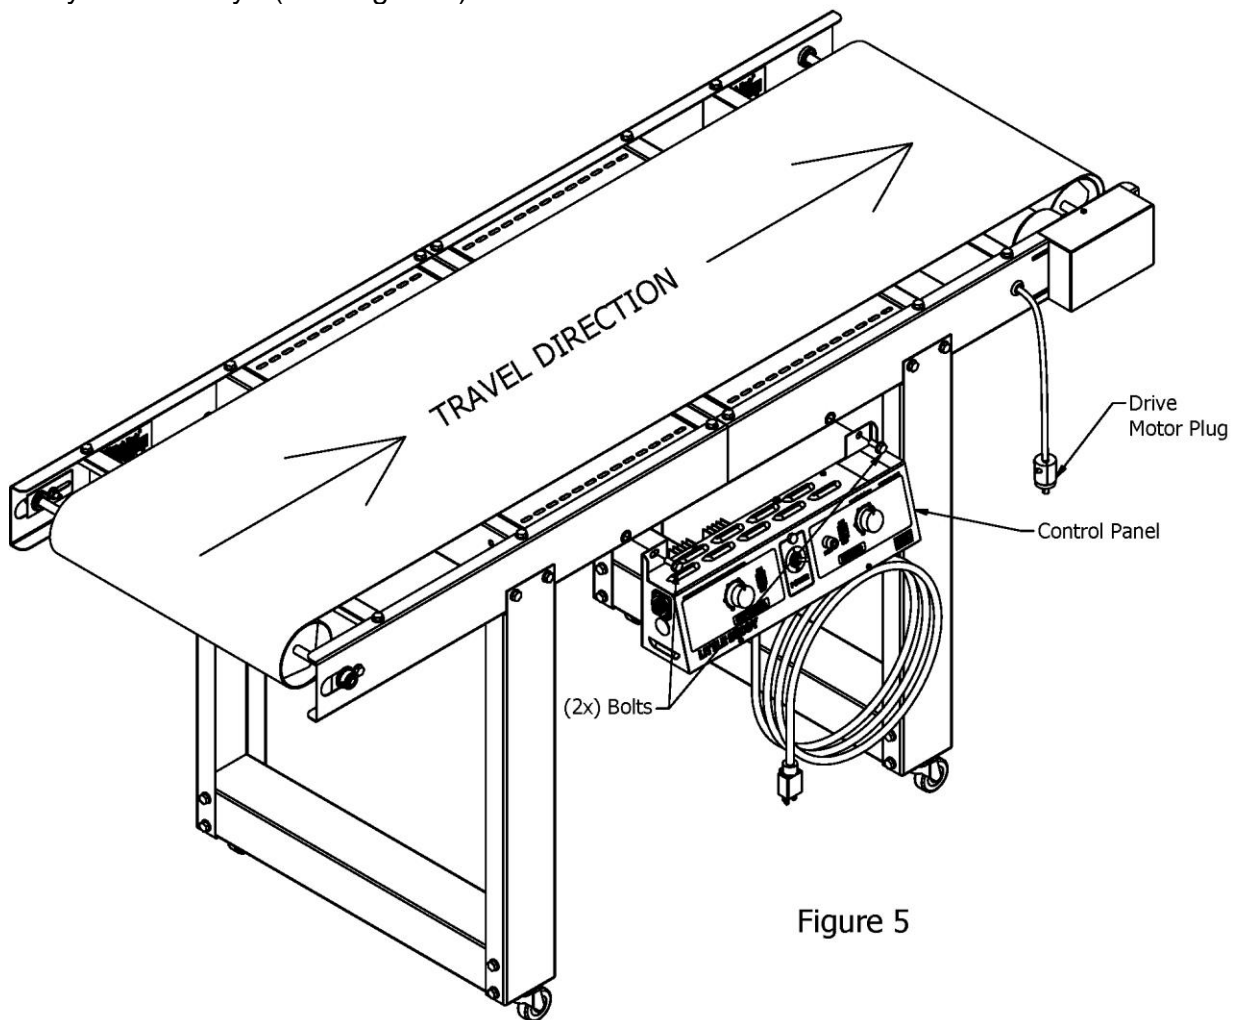

Figure 5
1. Use the remaining (2x) bolts from LB17-LK carton to fasten the control panel to the conveyor assembly. (See Figure 5)